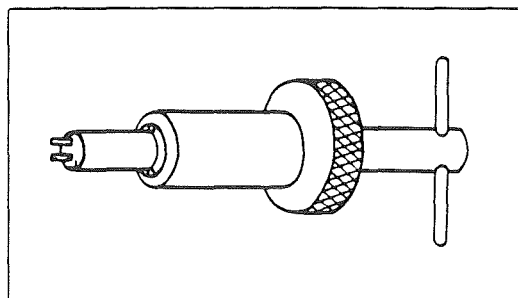

Fig. 1
- 1) As shown in Fig. 1 (P. 3), bring the part (A) of the tool onto the condenser attaching surface, and the part (B) onto the stage attaching surface.
- 2) Raise the condenser attaching surface to make sure that the part (B) enters the part (A).